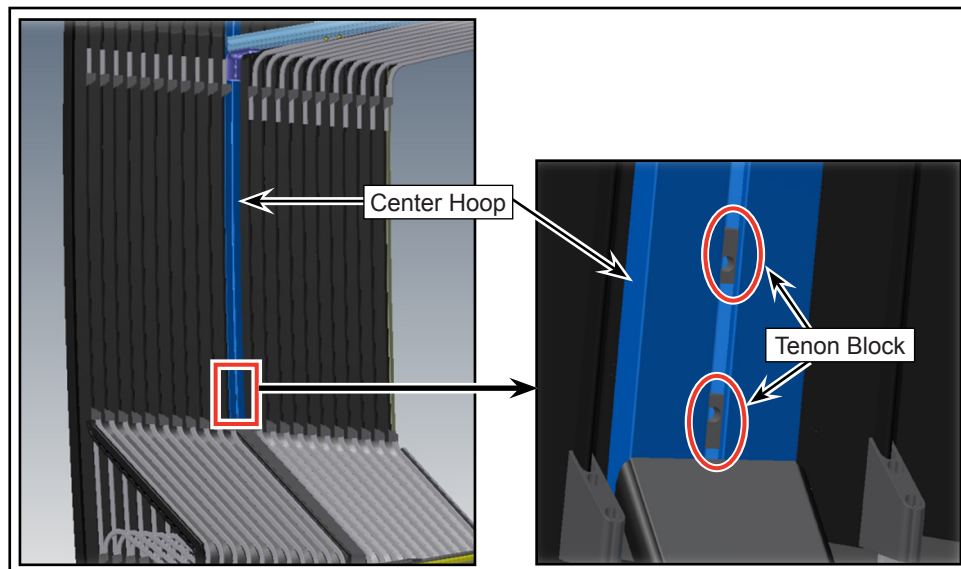

Figure 4 - Typical View of Tenon Block
- 1.5. Retain the tenon blocks at the same location (inside the center hoop aluminium profile) as shown (see Figure 4).